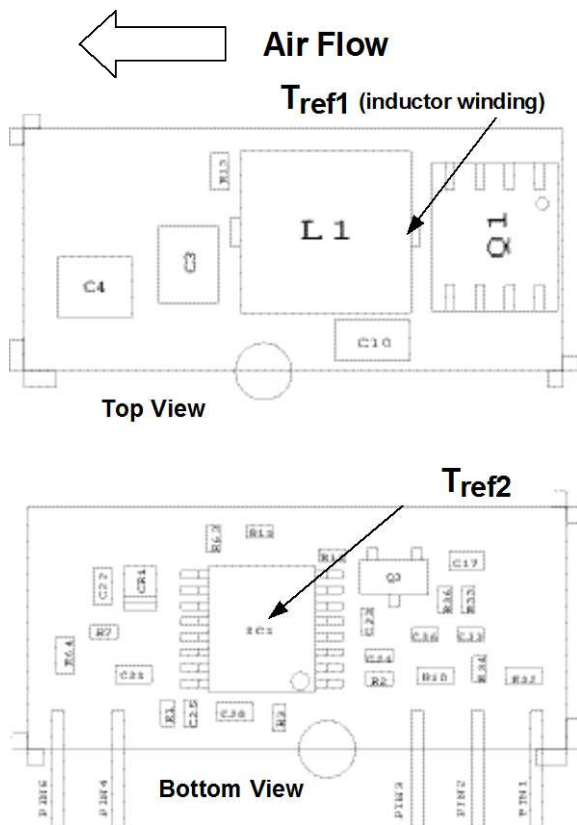
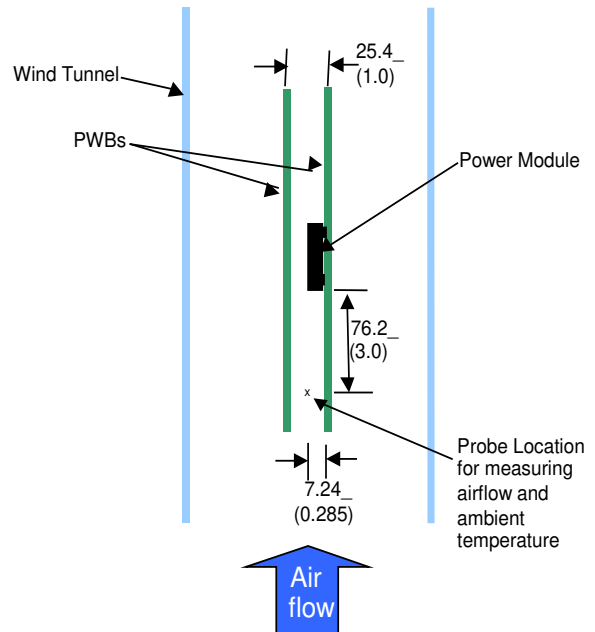

Figure 31. Tref Temperature measurement location.
Figure 32. Thermal Test Set-up.
To provide over temperature protection in a fault condition, the unit relies upon the thermal protection feature of the controller IC. The unit will shutdown if the thermal reference point  $T_{ref2}$ , (see Figure 31) exceeds  $140^{\circ}C$  (typical), but the thermal shutdown is not intended as a guarantee that the unit will survive temperatures beyond its rating. The module will automatically restarts after it cools down.
Considerations include ambient temperature, airflow, module power dissipation, and the need for increased reliability. A reduction in the operating temperature of the module will result in an increase in reliability. The thermal data presented here is based on physical measurements taken in a wind tunnel. The test set-up is shown in Figure 32. Note that the airflow is parallel to the long axis of the module as shown in figure 31. The derating data applies to airflow in either direction of the module’s long axis.
The thermal reference point,  $T_{ref1}$  used in the specifications of thermal derating curves is shown in Figure 31. For reliable operation this temperature should not exceed 125°C.